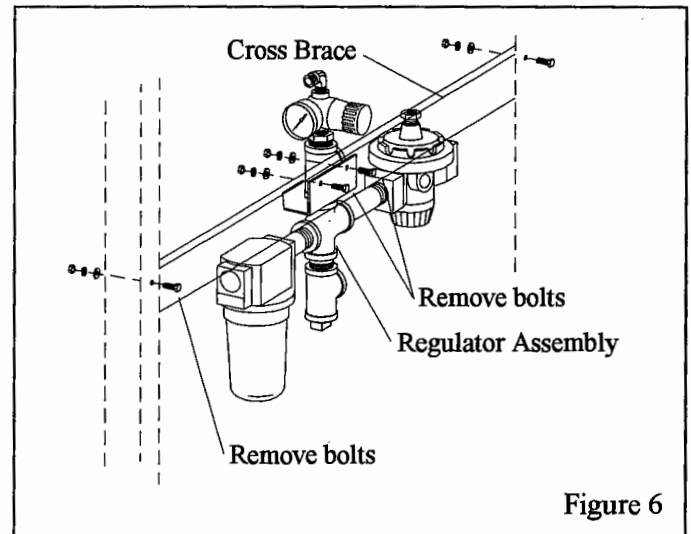

Figure 6
3.9 Remove the two mounting bracket bolts securing the regulator assembly to the cross brace per Figure 6, and remove and discard the regulator assembly. Temporarily remove the cross brace.